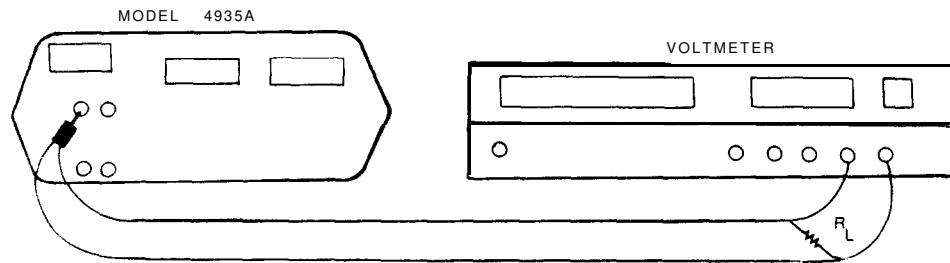

Figure 5-1. Output Level and Transmit Monitor Loop Adjustments
1. Connect Equipment as shown in Figure 5-1.